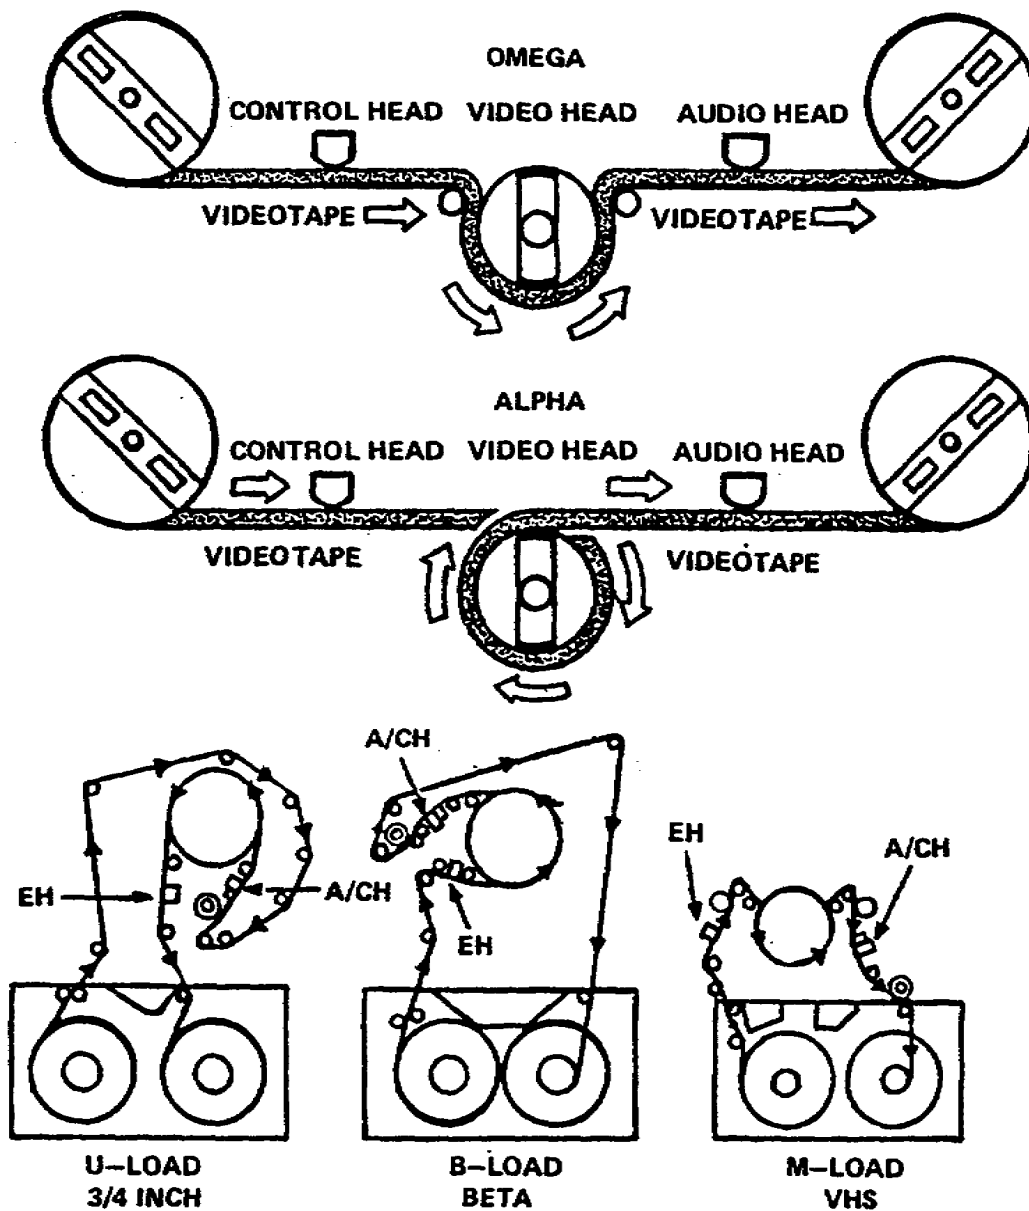

Figure 1-2. Two popular methods of tape transport in helical scan machines
4. These recorders are divided into two classes, single and dual head machines. Single-head recorders use either the alpha or omega type of wrap (fig 1-2).